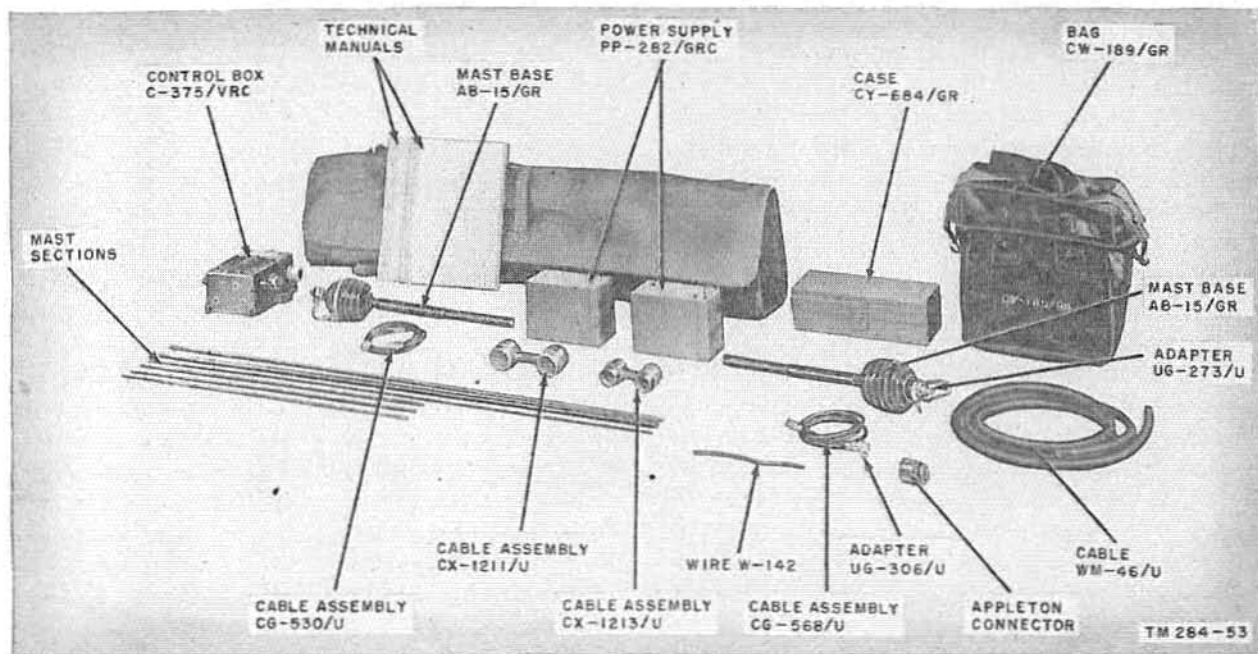

Figure 13. Minor Components of Radio Set AN/GRC-3.
Power Supply PP-282/GRC (shown with the minor components in figure 13) is used in the auxiliary receivers and the interphone amplifier in 24-volt installations of the radio sets. The unit in the amplifier supplies operating voltages for Receiver-Transmitter RT-70/GRC (Set 2) as well as the amplifier. Power Supply PP-281/GRC, similar in appearance and general character-
a. The following minor components are illustrated in figure 13:
- (1) Mast Base AB-15/GR.
- (2) Mast Sections MS-116-A, MS-117-A, and MS-118-A.
- (3) Mast Sections AB-22/GR and AB-24/GR.
- (4) Adapters UG-273/U and UG-306/U.
- (5) RF Cable Assembly CG-568/U.
- (6) RF Cable Assembly CG-530/U.
- (7) Special Purpose Cable Assembly CX-1211/U.
- (8) Special Purpose Cable Assembly CX-1213/U.
- (9) Wire W-142.
- (10) Special Purpose Cable WM-46/U.